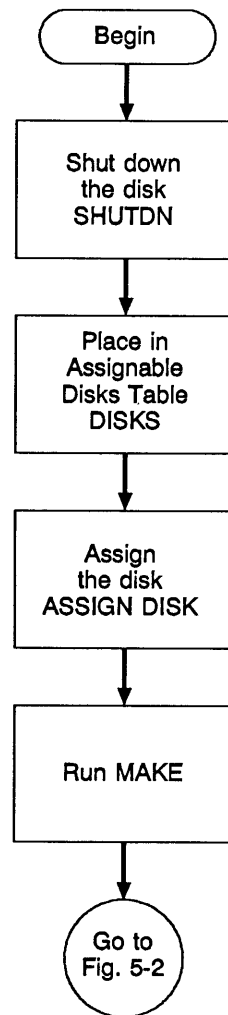

FIGURE 5-1. What to Do Before Running MAKE
3. Then, use the following procedure, which is shown schematically in Figure 5-1: